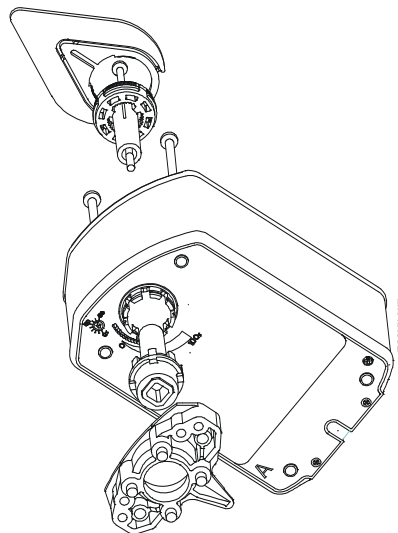

Figure 5: Removing the Linkage
3. Remove the linkage from Side A (Figure 5).